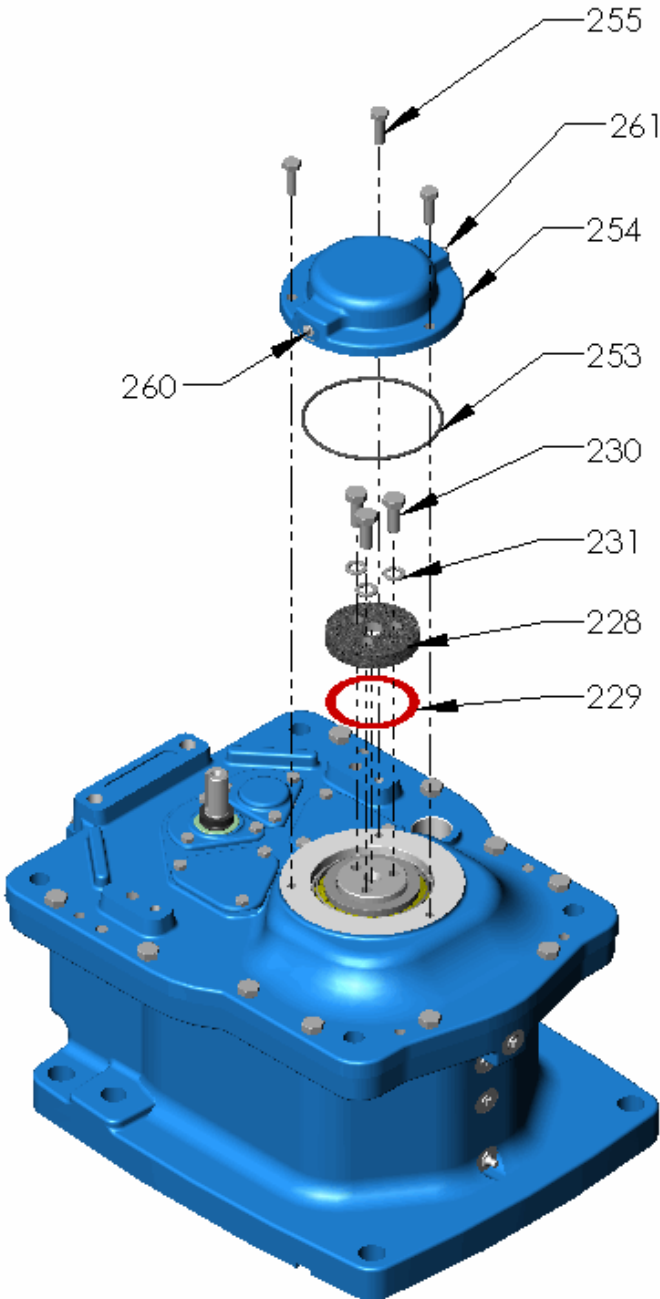

Figure 24 – Output Cap
- V. Output shaft shim selection (refer Figure 24).
- W. At output shaft, install following items (refer Figure 24):